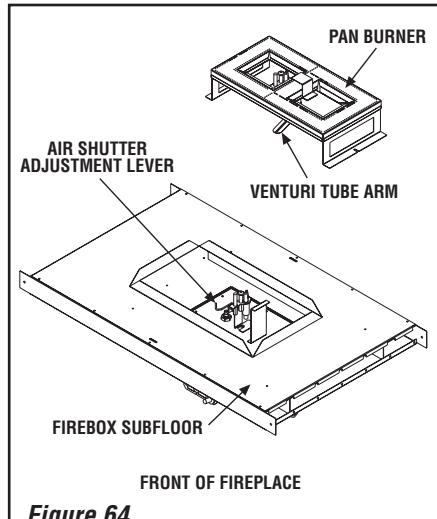

Figure 64
Step 3. Referring to **Figure 64, remove the burner.**
Step 5. (Refer to **Figure 64**, page 42)
Ensure that the arm of the venturi of the burner is hooked onto the air shutter adjustment lever (refer to **Figure 64 on Page 42**). The primary air opening can be adjusted by rotating the adjustment lever from beneath the firebox floor. Refer to **Figure 62 on Page 38** for the recommended minimum primary air opening setting.